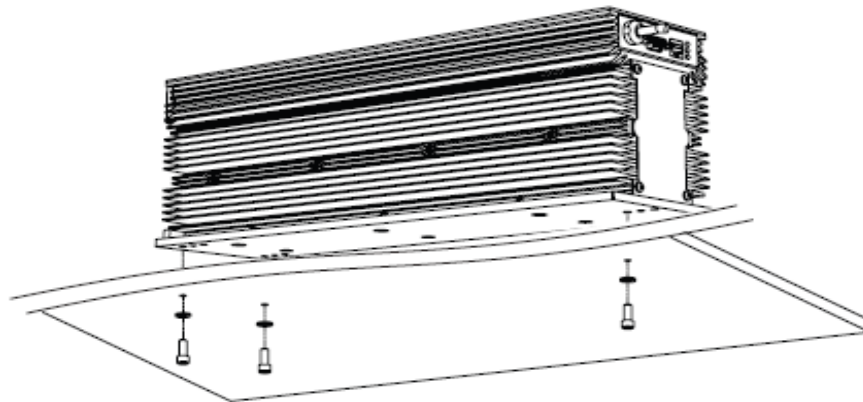

Figure 1-2 OEM v30 mounting locations (1/4–20 fastener locations shown)
- 2 Place the v30 laser on the mounting surface so that the threaded holes in the base plate line up with the holes in your mounting surface as shown in Figure 1-2.